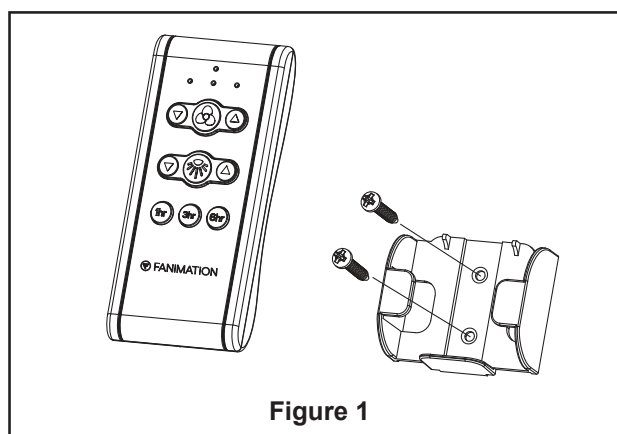

Figure 1
1. **Installing Wall Holder:** (Figure 1)